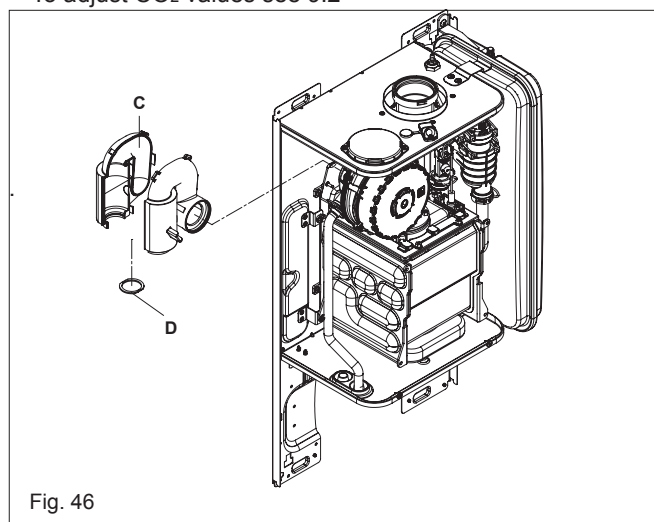

Fig. 46
- Replace if necessary the flange (D) on the silencer (C) loosening the two part (fig. 46)